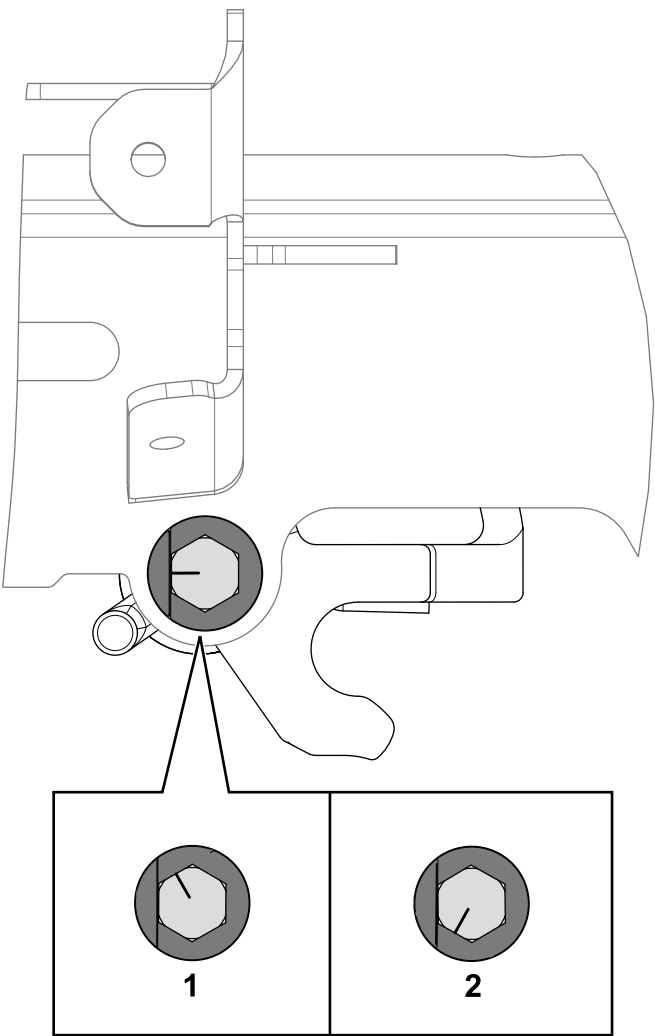

Figure 7
2. Rotate the bolt clockwise or counter-clockwise to adjust the angle of the handle-height adjuster in or out. The handle-height adjuster should be parallel to the upper receiver weldment as shown in Figure 7.